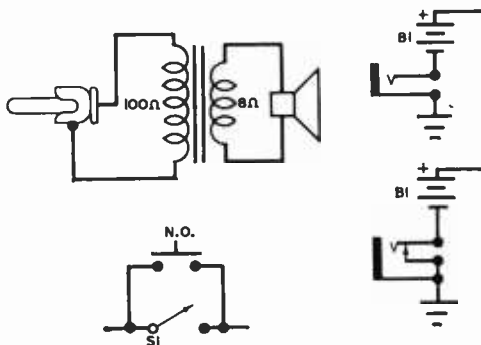

Fig. 5. Simple modifications you can make to extend the utility of the "Square Deal." See text below.
**Modifications.** If you add a phone jack in series with the battery, you can turn the multivibrator on and off with almost any switching device, for use in a code practice rig, annunciator, burglar alarm, or to make tone-burst tests (see Fig. 5). If you use a non-shortening type jack, the circuit will work only when the key, switch, thermostat, etc., is plugged in and completes the circuit. However, if a shorting-type jack is used, the circuit will work both ways.